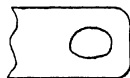

FIG. 11.—Main-spring End.
**Broken Mainsprings.**—The mainsprings of these clocks do not often break, and when they do it is generally just at the outer end across the hook hole. When this has happened, take the spring out, and trim off the broken end to a rounded form, as in Fig. 11, the end being straight with corners well rounded. Then soften the steel for about one inch back from the end, by heating in a gas flame or by a spirit lamp. The spring is hardened steel and heat will soften it. The degree of heat is indicated roughly by the colour of the steel, buff the surfaces bright and hold in the flame. As the steel gets hot it will assume a straw colour, then a blue, this will pass off to a dirty white or grey. At this point stop, as it is hot enough for the purpose and heating it actually to redness will make it too soft. When cool, punch a hole in it by placing the spring on a steel stake with a hole in it and using a flat-faced punch, or by placing on a block of lead or hard wood and using a round or pointed punch. After punching, the hole may be filed out larger and to the exact size and shape required by a rat-tail file. The spring is then put in its barrel again as described in Chap. II.